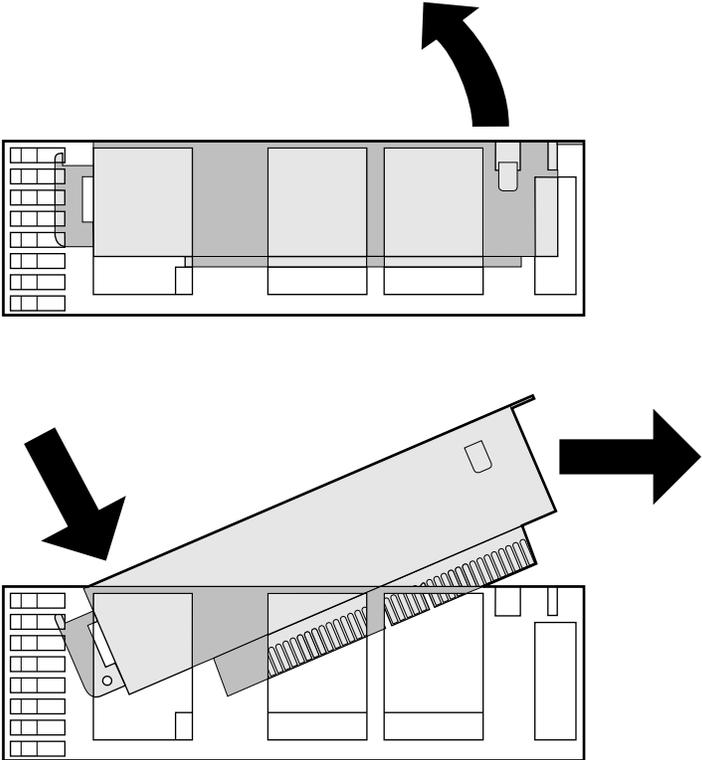

Figure 1-7 Removing the PCI Tray From the System Module Viewed From the Side
- 3. Push down slightly on the rear of the PCI tray to remove it from the system module (Figure 1-7).